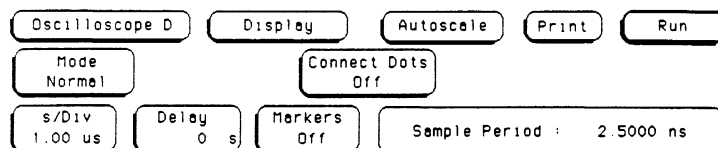

Figure 3-14. Display Configuration
- c. Configure **Display** screen as shown in figure 3-14.